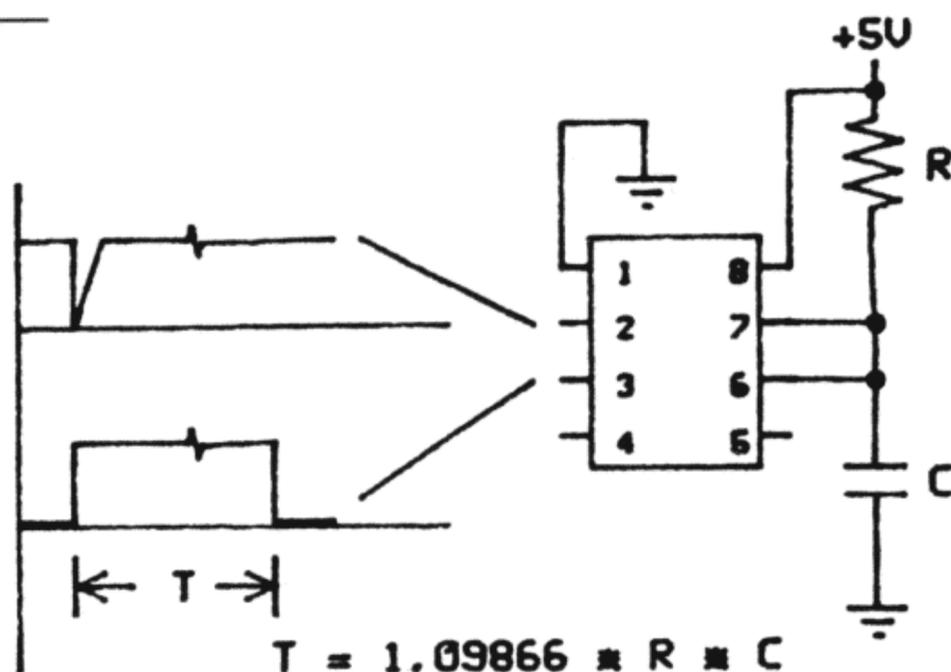

Figure 1: 555 Timer Specs
Connect the switch as shown in figure 1. Make sure that all connections are neat and tight, with no loose strands of wire hanging off. The switch can be mounted on a small piece of scrap perf board (or similar stiff plastic) or in a small case. (I use an old 35mm film can.) The perf board can be permanently attached to the back or top of the computer
If a capacitor is provided with a fixed voltage, it will charge to a specific voltage level within a time that can be determined mathematically. The circuit of Figure 1 is a 555 Timer Integrated Circuit (IC) connected in the monostable (one shot) mode. When a low voltage is provided to pin 2, the voltage at pin 3 immediately rises to the supply voltage (V+) and the unknown capacitor (C) begins charging. After a time equal to $1.09866 \times R \times C$, the capacitor has been charged to two thirds of V+ and the voltage at pin 3 returns to ground. If the same capacitor and resistor are used, this time will not change.
The schematic diagram of Figure 2 shows the capacitance meter. It differs from Figure 1 in that the 555 Timer IC (U1) is now connected to